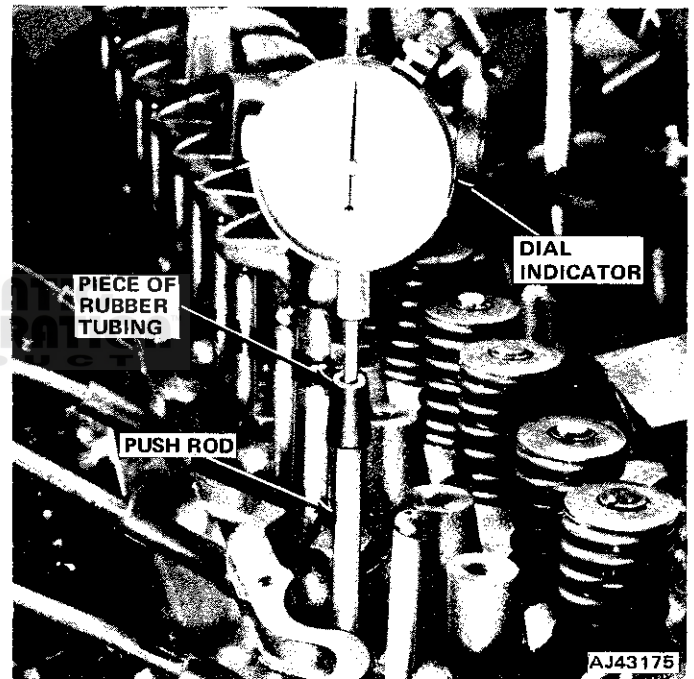

Fig. 1B-14 Cam Lobe Lift Measurement
(1) Remove cylinder head cover and gasket.
(2) Remove rocker arms and bridged pivot assemblies.
(3) Remove spark plugs.
(4) Install dial indicator on end of push rod. Use piece of rubber tubing to hold dial indicator plunger squarely on push rod (fig. 1B-14).